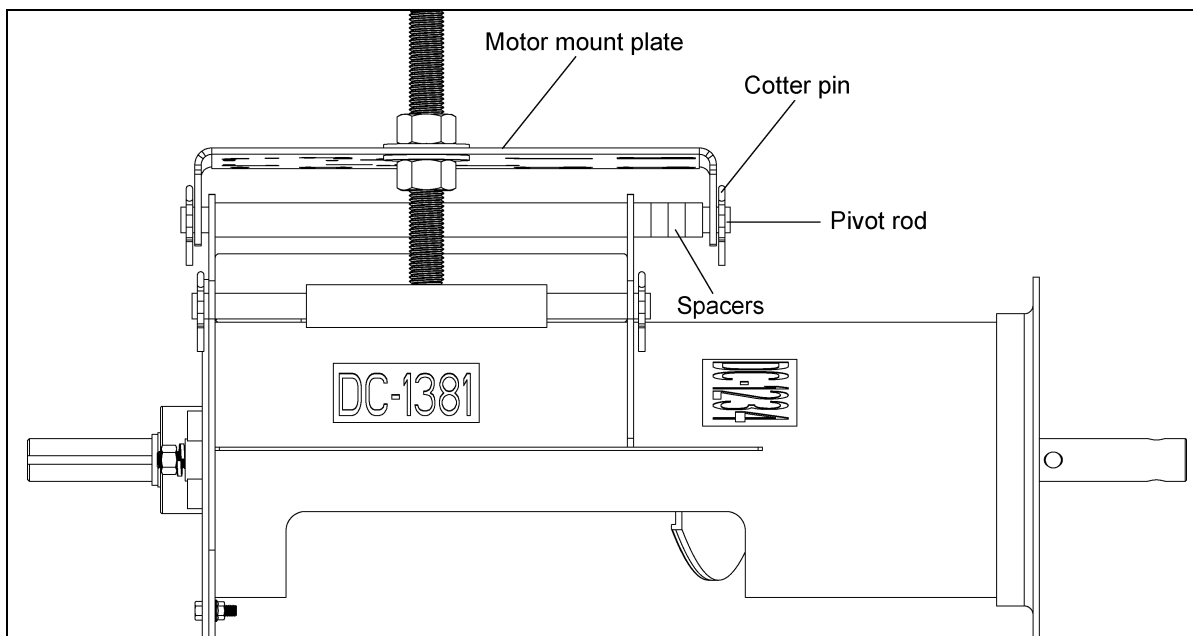

Figure 4H
4. When the pivot rod begins to extend through the pivot tube, install the spacers, BETWEEN the back plate and the inner face of the motor mount plate. *(See Figure 4H on Page 19.)*
5. Secure the motor mount pivot rod in place with two (2) 3/16" x 2" cotter pins. With the cotter pins in the pivot rod, bend one tab of the cotter pin back so that it touches the pivot rod. Bend the other tab of the cotter pin away from the first tab.